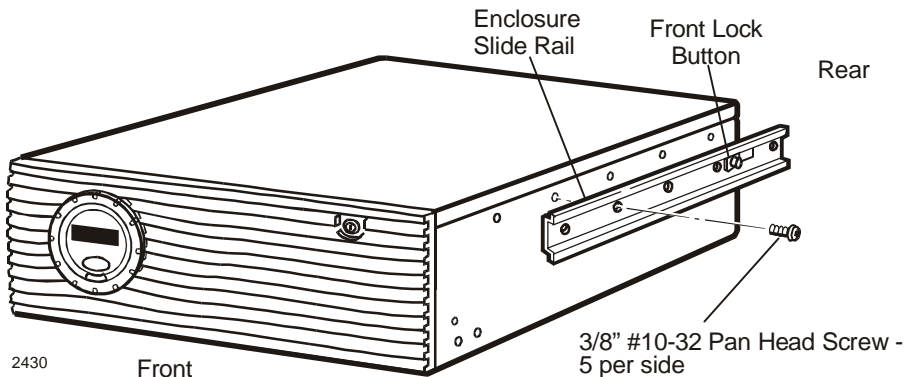

Figure 11. Disk Enclosure Rack Mount Components
- Install one slide rail on each side of the disk enclosure, as shown in Figure 11. Position the lock button assembly to the rear. Secure the slide rails, using five 3/8" #10-32 pan head screws for each slide rail.